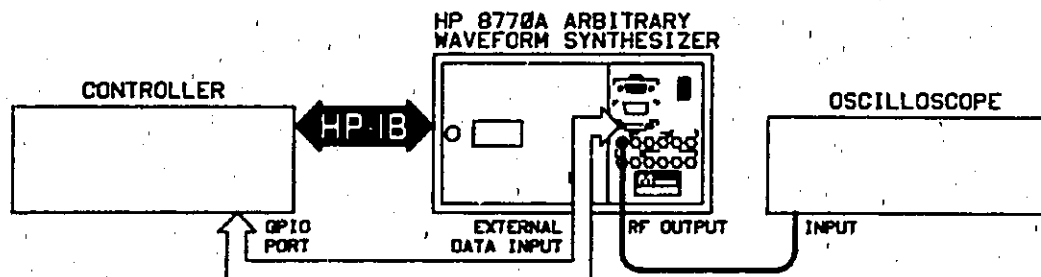

Figure 4-11. External Data Input Test Setup
15. Connect the equipment as shown in Figure 4-11.